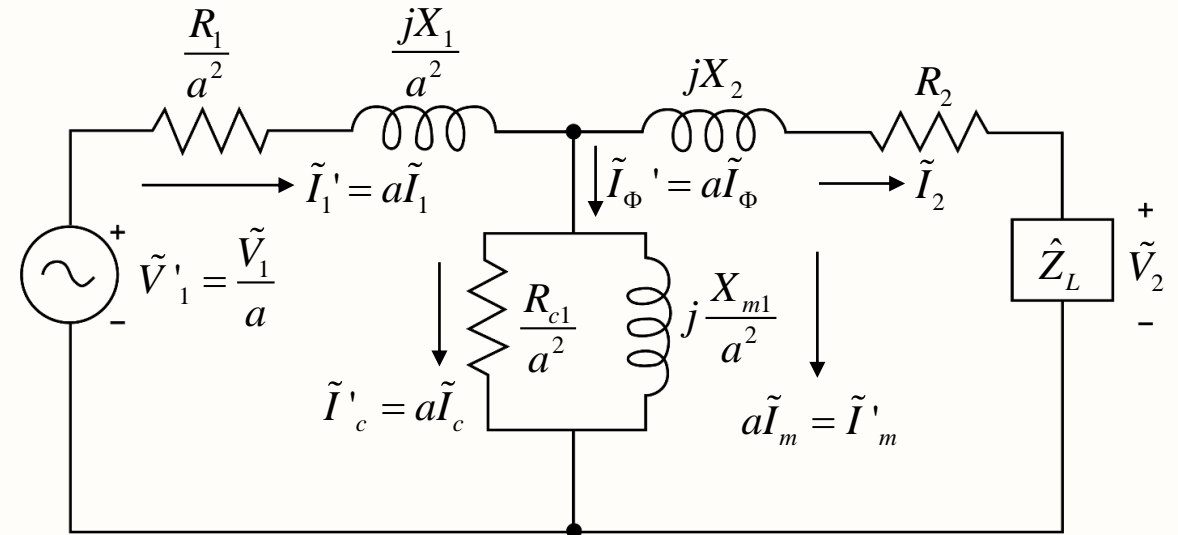

Fig. 19. Exact equivalent circuit referred to the secondary.
- ❖ The equivalent circuit can be referred to the secondary side (see Fig. 19) by making the following transformations: